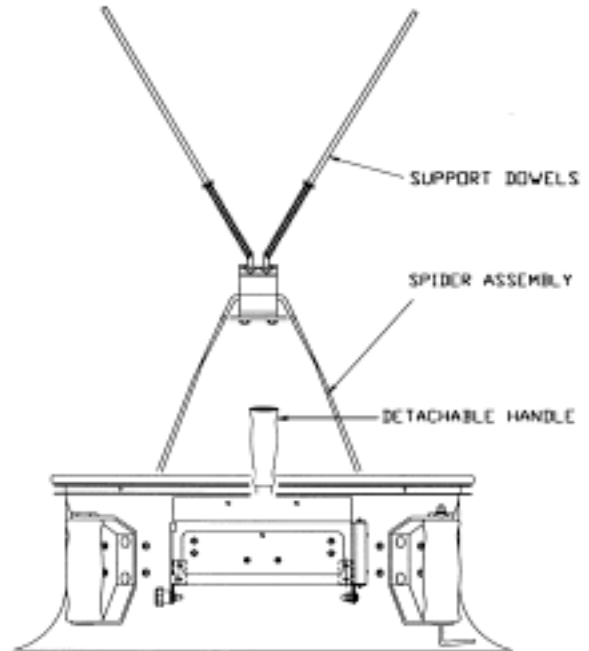

Figure 4—Instrument assembly
Step 4: Unfold the spider assembly mechanism. See Figure 4. This mechanism will now be inserted into the four hood support brackets located in each corner of the base. Grasp one of the wire formed legs in each hand. Insert each of the legs into the center hole of the hood support brackets. Grasp the remaining two legs and insert them into the center holes of the remaining hood support brackets. If it is later found that the hood is not held as tautly as required, the spider assembly can be moved upward to compensate.
Step 5: Place the four support dowels on the spider assembly mechanism as shown in Figure 4. The aluminum tips on the dowels should be facing up. If a 2 x 4 or 3 x 3 (600 x 1200 or 900 x 900 mm) hood set is to be used, the set of 8-inch (200 mm) long dowels must be added to either end of the long dowels.
Step 7: If desired, install the detachable handle next, as shown in Figure 4.